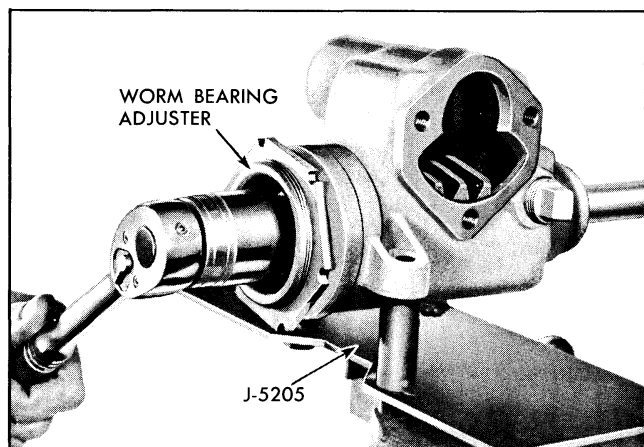

Fig. 9-40 Adjusting Worm Bearing Preload
b. If torque does not meet above specification, loosen worm bearing adjuster lock nut (Fig. 9-40) and turn adjuster to bring torque within $\frac{3}{8}$ to $\frac{7}{8}$ lb. in. limits.